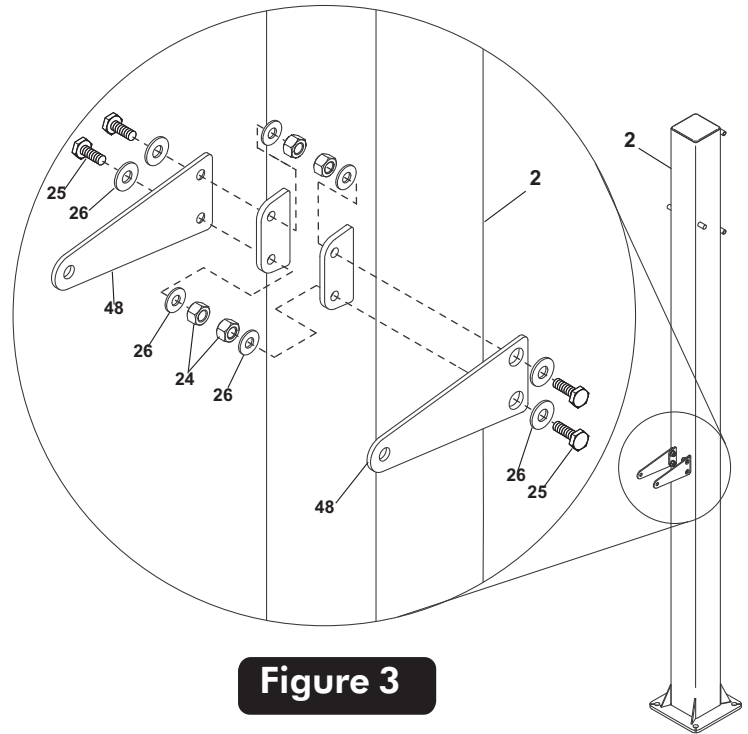

Figure 3
1. Attach Post Brackets (#48) to outside of brackets on back of Post Assembly (#2). Secure with two Hex Head Bolts (#25), four Flat Head Washers (#26) and two Locknuts (#24) in each Bracket (#48). See Figure 3.